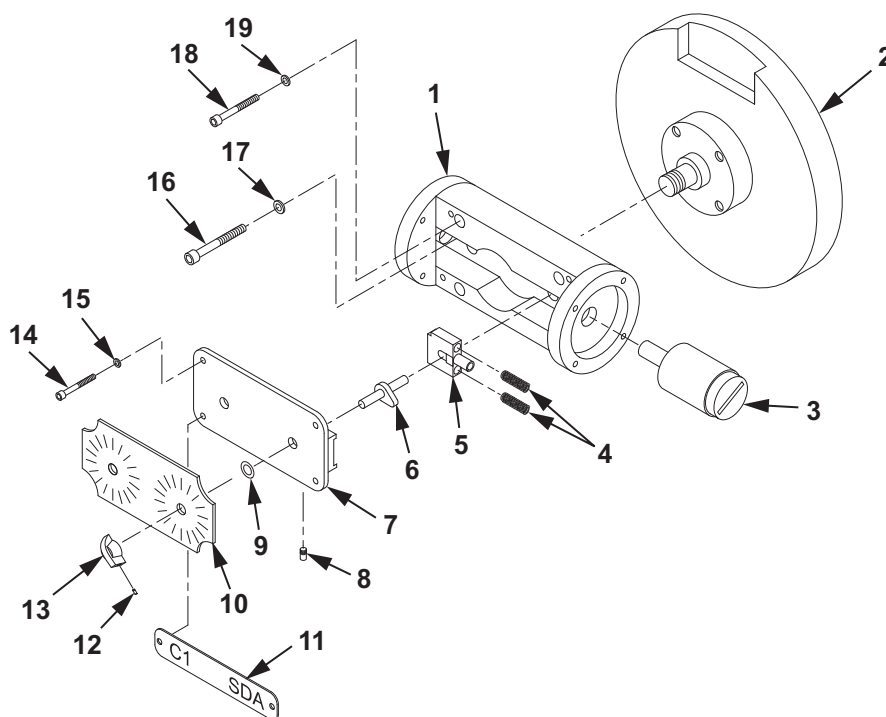

Figure 1. CI and SDA Injection Pump Removal.
1. Position drain pans below CI and SDA injection pump assembly (Figure 1, Item 1).
2. Loosen stroke adjustment setscrews (Figure 1, Item 8) on bottom of CI and SDA injection pump assembly (Figure 1, Item 1).
3. Loosen two setscrews (Figure 1, Item 12) on stroke adjustment knobs (Figure 1, Item 13).
4. Remove stroke adjustment knobs (Figure 1, Item 13) from the stroke adjustment cams (Figure 1, Item 6).
5. Remove stroke indicator (Figure 1, Item 10) from the stroke adjustment cams (Figure 1, Item 6).
6. Remove four screws (Figure 1, Item 14) and lockwashers (Figure 1, Item 15) securing cam guide cover (Figure 1, Item 7) and CI and SDA indicator tag (Figure 1, Item 11) to stroke adjustment cams (Figure 1, Item 6). Discard four lockwashers (Figure 1, Item 15).
7. Remove CI and SDA indicator tag (Figure 1, Item 11) from cam guide cover (Figure 1, Item 7).
8. Remove cam guide cover (Figure 1, Item 7) and stroke adjustment cams (Figure 1, Item 13) from CI and SDA injection pump assembly (Figure 1, Item 1).
9. Remove two O-rings (Figure 1, Item 9) from cam guide cover (Figure 1, Item 7). Discard O-rings (Figure 1, Item 9).
10. Remove stroke adjustment cams (Figure 1, Item 6) from cam guide cover (Figure 1, Item 7).
11. Remove two plungers (Figure 1, Item 3) from CI and SDA injection pump assembly (Figure 1, Item 1).
12. Remove two crossheads (Figure 1, Item 5) and four springs (Figure 1, Item 4) from CI and SDA injection pump assembly (Figure 1, Item 1).
13. Remove four screws (Figure 1, Item 18) and lockwashers (Figure 1, Item 19) securing CI and SDA injection pump assembly (Figure 1, Item 1) to gear housing (Figure 1, Item 2). Discard four lockwashers (Figure 1, Item 16).
14. Remove two screws (Figure 1, Item 16) and lockwashers (Figure 1, Item 17) securing CI and SDA injection pump assembly (Figure 1, Item 1) to gear housing (Figure 1, Item 2). Discard lockwashers (Figure 1, Item 17).
15. Remove CI and SDA injection pump assembly (Figure 1, Item 1) from gear housing (Figure 1, Item 2).
1. Install CI and SDA injection pump assembly (Figure 1, Item 1) onto gear housing (Figure 1, Item 2).
2. Apply antiseize compound to two screws (Figure 1, Item 16).
3. Install two new lockwashers (Figure 1, Item 17) and screws (Figure 1, Item 16) through CI and SDA injection pump assembly (Figure 1, Item 1) into gear housing (Figure 1, Item 2). Tighten two screws (Figure 1, Item 16).
4. Apply antiseize compound to four screws (Figure 1, Item 18).
5. Install four new lockwashers (Figure 1, Item 19) and screws (Figure 1, Item 18) through CI and SDA injection pump assembly (Figure 1, Item 1) into gear housing (Figure 1, Item 3). Tighten four screws (Figure 1, Item 18).